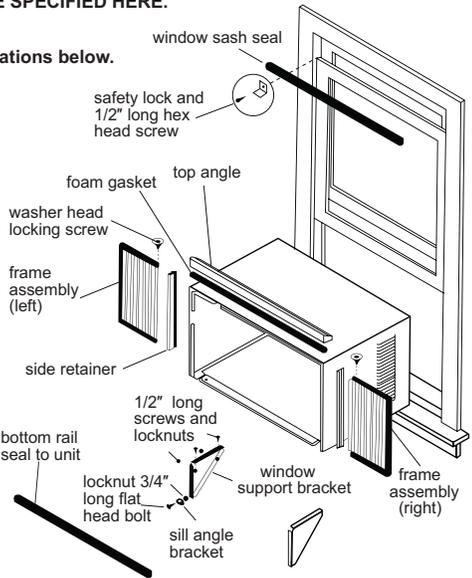

FIG.1
- 1. Check window opening size:** the mounting parts furnished with this air conditioner are made to install in a wooden sill double-hung window. The standard parts are for window dimensions listed above. Open sash to a minimum of 19" (483mm). (FIG.1)
1. Pull down on front grille from upper edge. Lift front grille upwards and place to one side. (See FIG.1)